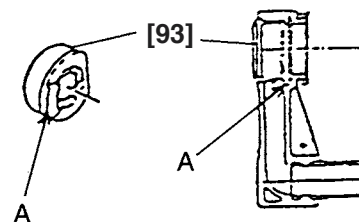

Fig. 19
(3) When mounting the Nozzle Seal [93], ensure without fail that the section marked "A" is properly aligned with and fitted into the groove on the nozzle, as indicated in Fig. 19.